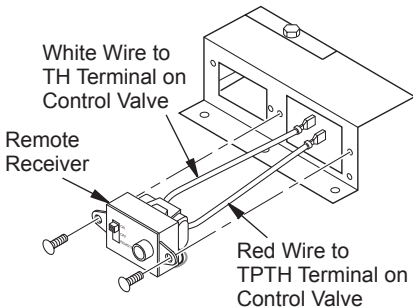

Figure 29 - Installing Remote Receiver
5. Connect wires from remote receiver to control valve as shown in Figure 29.
6. Install remote receiver unit onto remote/blower bracket using screws provided (see Figure 29).